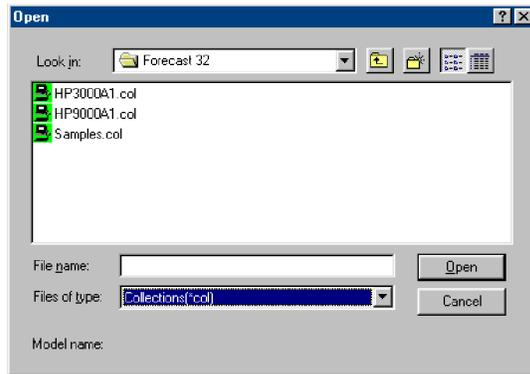

Figure 5.1 *Open dialog box (showing *.col files)*
- 1 On the **File** menu, click **Load/Validate model**. The **Open** dialog box will appear (Figure 5.1).